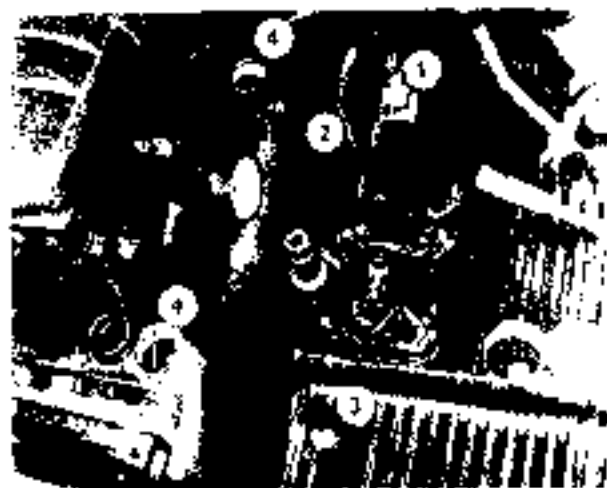

Fig. 21
- 13. Front drive engagement lever (Fig. 21:2).
- 3. Differential lock pedal (Fig. 21:3).
- 5. Torque multiplier pedal (Fig. 21:1).